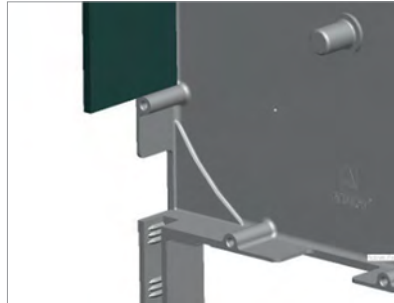

Fig. 3.5
- lower edge of safety plate must not be placed on the boss on the back panel of **SF205** end cap (fig. 3.5).